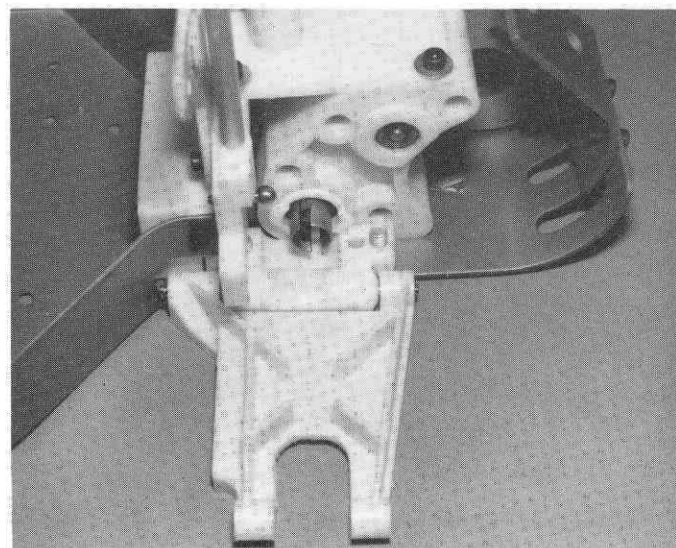

Fig. 108
□ **Fig. 108** Install the L.H. mount to the chassis with 2 Phillips screws as shown. Now, install the R.H. arm.